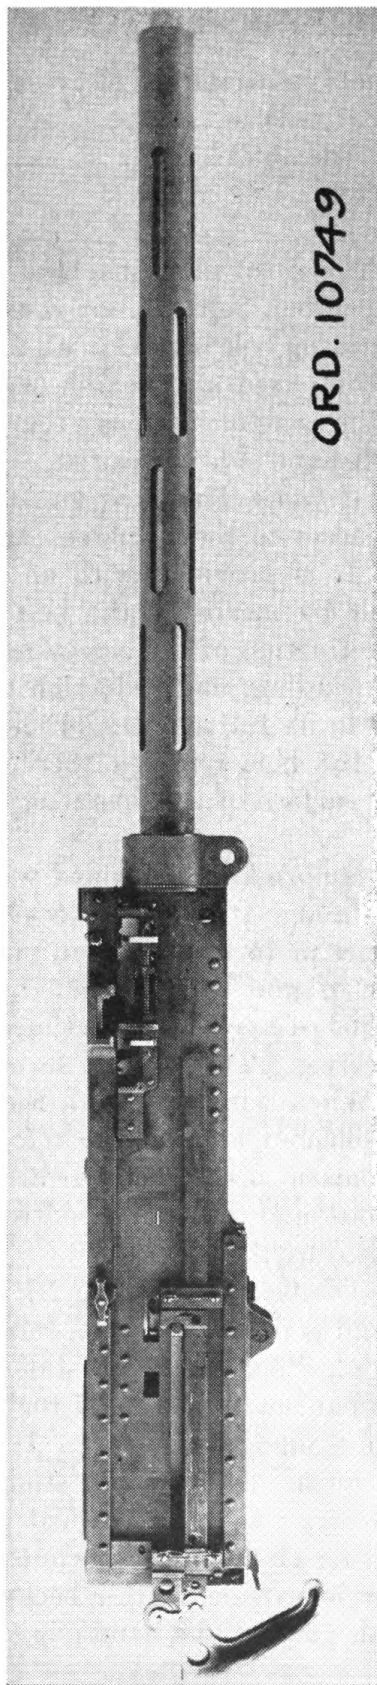

FIGURE 1.—Browning machine gun, caliber .50, M2, aircraft, fixed.
a. Types.—(1) *Fixed gun.*—The fixed gun (fig. 1) is designed for installation on or adjacent to the airplane engine; or for mounting in or on the wings. It is provided with an operating slide which connects with the bolt by means of the bolt stud. The operating slide is provided for retraction of the breech mechanism by hand and for use in loading, unloading, and reduction of stoppages in firing. It can be drawn back to its full extent or to a position with the bolt not fully home and the bolt retained there by engaging the slot provided in the lower surface of the operating slide on the operating slide rear guide.